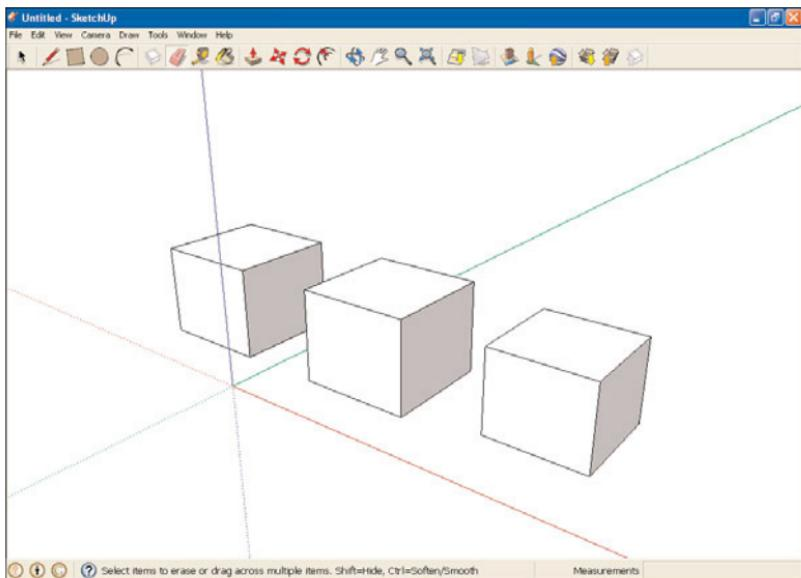

FIGURE 9.21 Erasing guides.
3. Click and hold down the mouse button and drag the mouse over the guides in the drawing. When you do, the guides are erased, as you see in Figure 9.21.